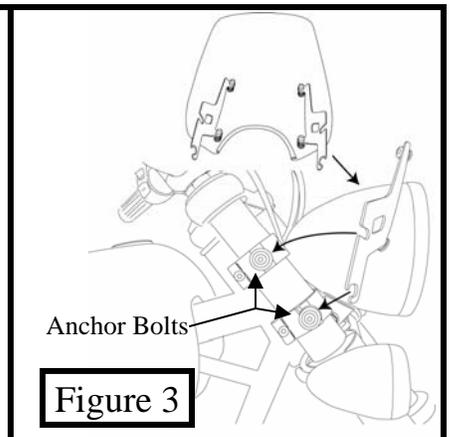

Figure 3
4. Loosen the four anchor bolts that are to hold the windshield to the Fork Clamps, and slip the windshield mounting plates and windshield onto the fork clamps. (see figure 3)